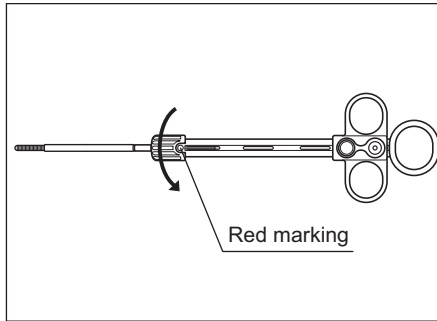

Figure 3.9
9. Turn the clamping knob (green) at the distal end of the control section clockwise and confirm that a red marking is visible through the notch on the clamping knob (see Figure 3.9).